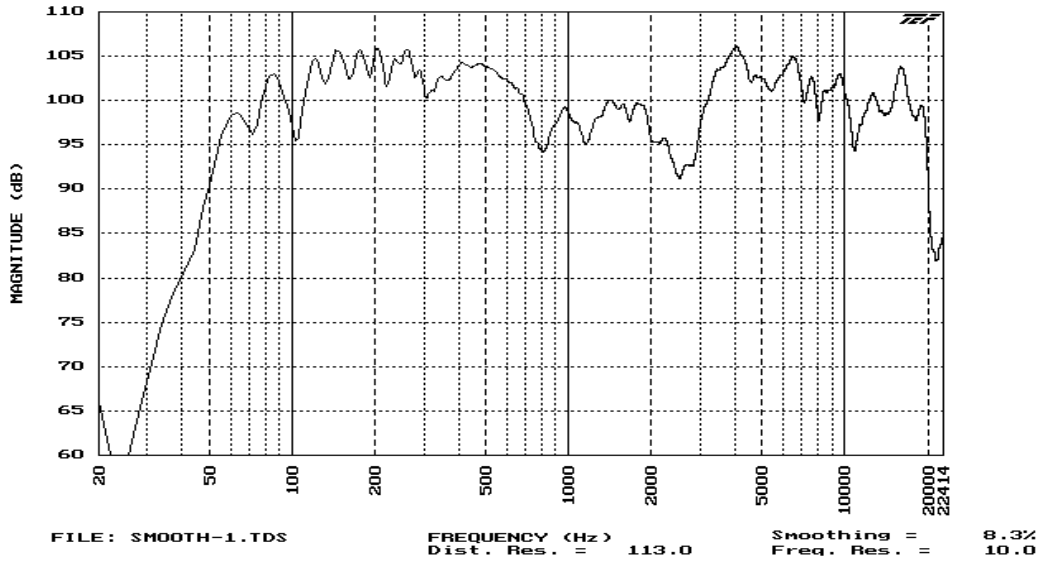

Figure 3. 8.3% (1/12 Octave) Smoothing
**Figure 3** shows how 8.3% smoothing makes the data easy to read while maintaining a high degree of detail in all frequency bands. It more closely matches what we hear. We have chosen a slightly higher 12.5% smoothing (1/8 octave) to use for frequency response curves.